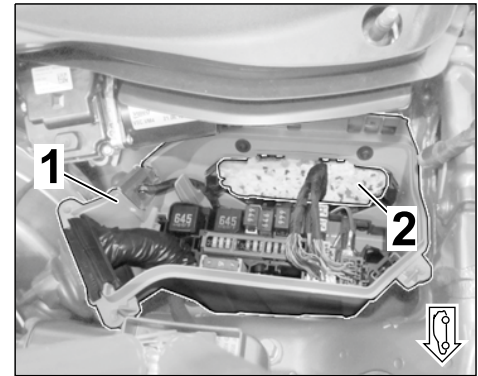

Figure 48
5.4.2 Install cover on fuse box (E-box) in cowl panel (⇒ *Figure 48*, ⇒ *Workshop Manual '978409 Loosening and securing fuse box'*)